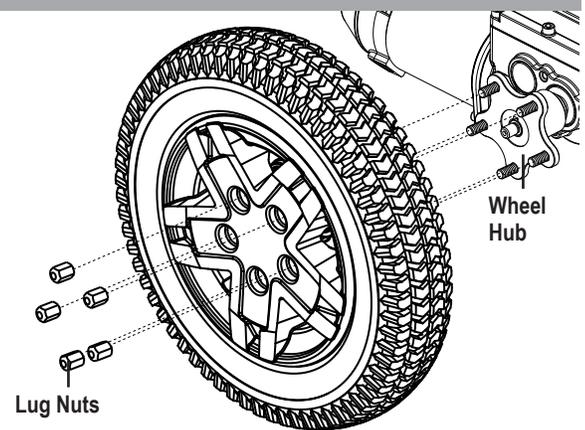

Figure 19. Q4 Drive Wheel
4. Remove the five (5) lug nuts from the wheel hub. **See figure 19.**